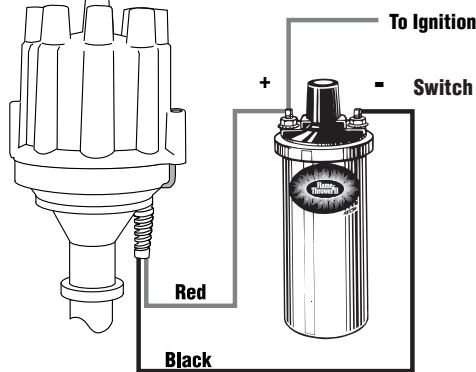

Figure 1
- Attach the black Ignitor III wire to the negative coil terminal. (See Figure 1)
- Attach the red Ignitor III wire to the positive coil terminal. (See Figure 1)